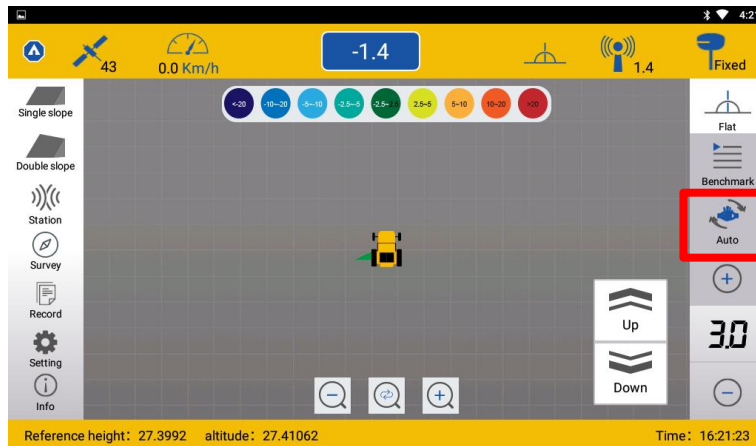

Figure 12
Step7. Click the manual-automatic switch button to switch to automatic mode. Start working in automatic mode. (Figure 12)